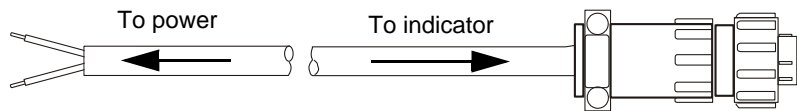

Figure 3.2 Power Connector and Battery Cable
8. Tighten the AMP or AWT connector on the underside of the indicator. See figure 3.2.